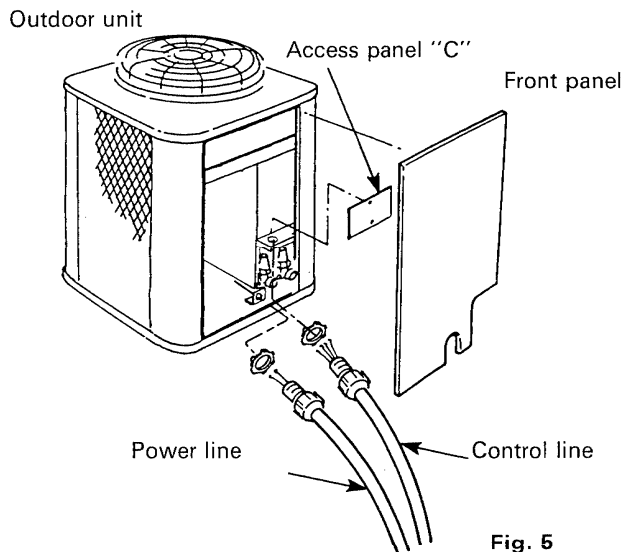

Fig. 5
- Remove front panel and access panel "C", then punch knockout holes on the panel. Fig. 5